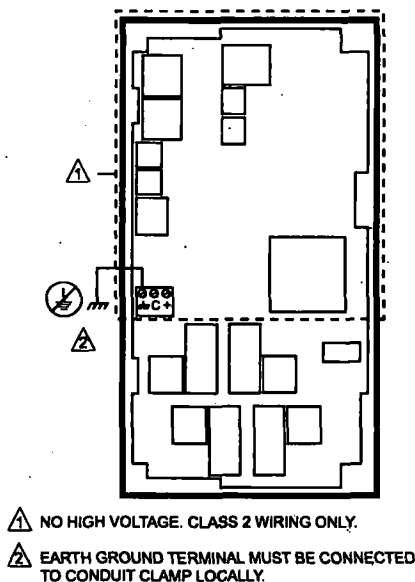

Fig. 5. Earth Ground.
Equipment damage can result if the earth ground is not connected. See Fig. 5 and Table 2 on page 6.
- b A separate earth ground is required for all installations regardless of the power source (24, 120, or 240 Vac). Refer to Fig. 5 on page 5.